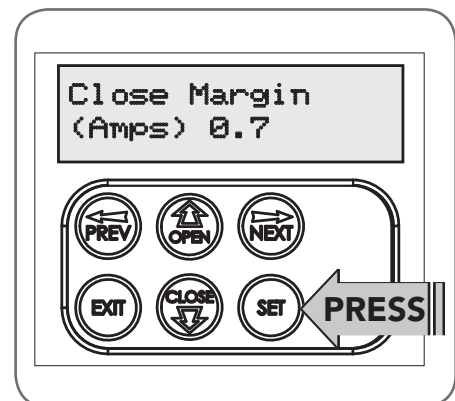

Fig 9.3
- MENU 2.1: CLOSE Margin is displayed (**Fig. 9.3**).
- Reprofiling is a simplified way of re-learning the travel characteristic of a previously setup Limit Switch travel installation. Re-profiling can be used when the travel characteristics of the gate changes due to mechanical adjustments etc. To initiate a re-profile, simply locate "MENU 10.2 Reprofile Travel", press SET and follow the prompts. The gate will start to move and re-calculate force margins. The gate can move between the open and close limit positions up to two (2) times (depending on the position of the gate and the power up condition).